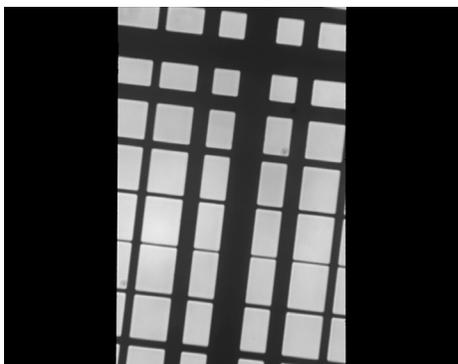

Figure 11. Image of the grid in the center of the image field. You can see that the grid is rotated because the lines are not horizontal and vertical.
- Adjust the microscope focus until the image of the grid is in focus on the computer screen. You should see one image of the grid in the exact center of the image field. An example is shown in **Figure 11**.